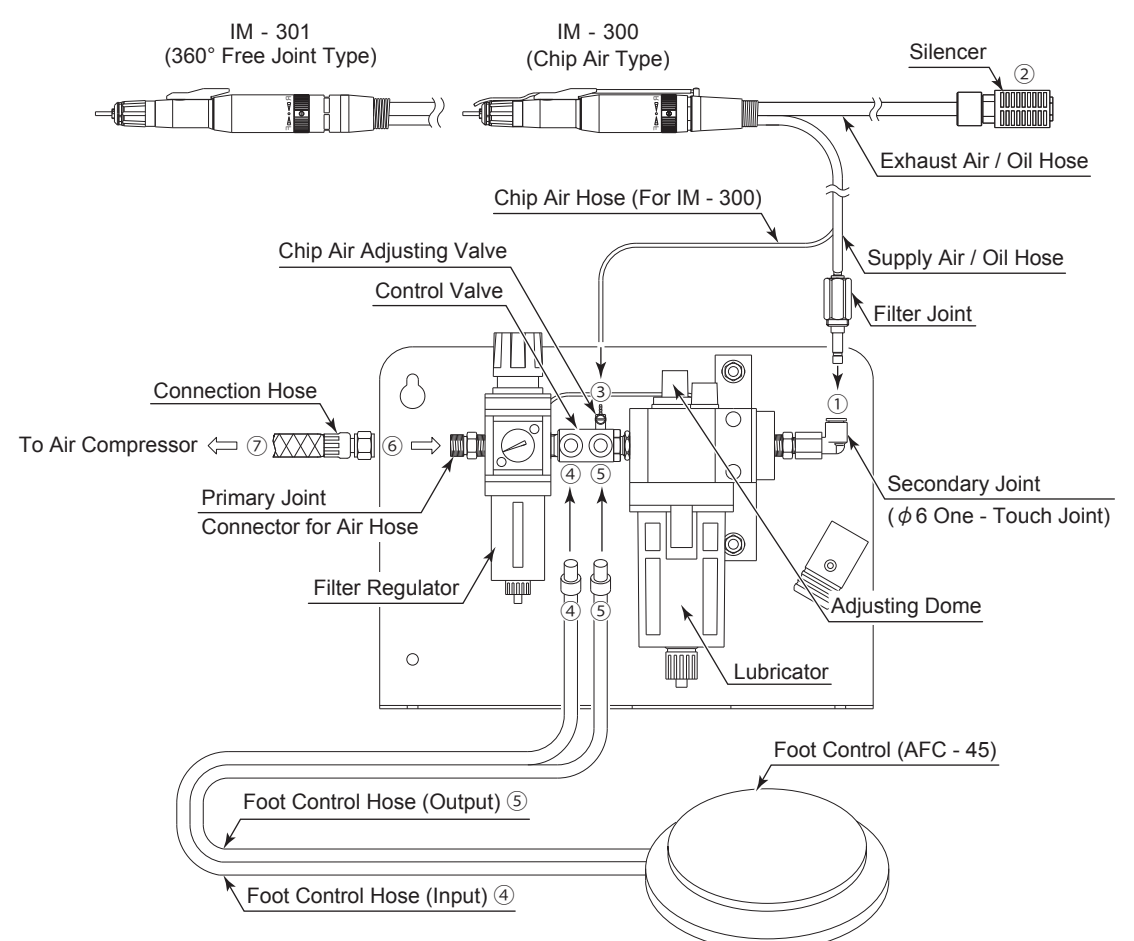

Fig. 4 Connection of Air Line Kit " AL - H1207F (Sold Separately) "
- (1) Connect the Filter Joint of the Air Motor to the Secondary Joint ( φ 6 One - Touch Joint) on the Air Line Kit. (Fig. 4 ①)
- (2) Place " Exhaust Air Silencer / Oil Hose " into an empty container (Fig. 4 ②). (Exhaust outlet air and oil from the Silencer.)
\* If using the ROTUS Air Motor " IM - 300 ", insert the Chip Air Hose to the Chip Air Adjusting Valve on the Control Valve (Fig. 4 ③).
- (1) Insert the Foot Control Hose (Input) ④ to the One - Touch Joint ④ of the Control Valve (Fig. 4).
- (2) Insert the Foot Control Hose (Output) ⑤ to the One - Touch Joint ⑤ of the Control Valve (Fig. 4).
- (1) Connect the Connection Hose (Air Line Kit's Standard Accessory) to the Primary Joint of the Air Line Kit. (Fig. 4 ⑥)
- (2) Connect the other side of the Connection Hose (Air Line Kit's Standard Accessory) to the compressor. (Fig. 4 ⑦)